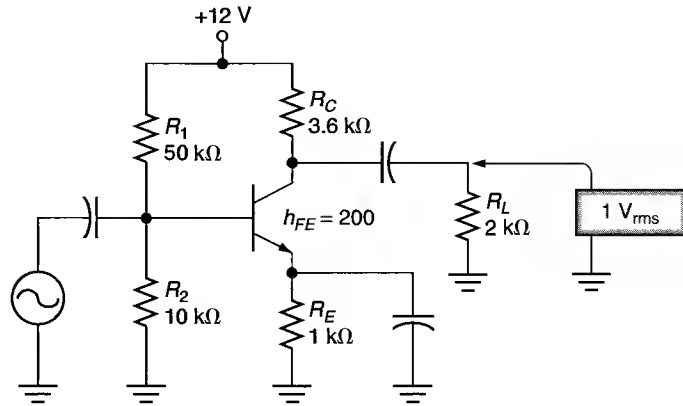

FIGURE 11.47
2. Calculate the compliance of the amplifier in Figure 11.47.
6. Calculate the value of P_S for the amplifier in Figure 11.47.
8. Calculate the value of P_L for the amplifier in Figure 11.47.
10. Calculate the maximum possible load power for the circuit shown in Figure 11.47.
12. Assuming that the amplifier in Figure 11.47 is driven to compliance, calculate the efficiency of the circuit.